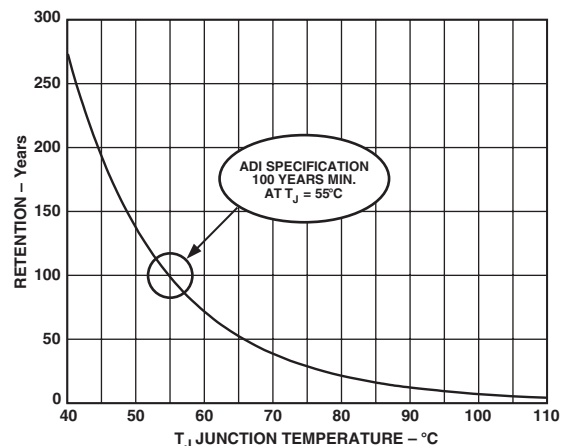

Figure 16. Flash/EE Memory Data Retention
*Retention* quantifies the ability of the Flash/EE memory to retain its programmed data over time. Again, the ADuC834 has been qualified in accordance with the formal JEDEC Retention Lifetime Specification (A117) at a specific junction temperature ( $T_J = 55^\circ\text{C}$ ). As part of this qualification procedure, the Flash/EE memory is cycled to its specified endurance limit described above, before data retention is characterized. This means that the Flash/EE memory is guaranteed to retain its data for its full specified retention lifetime every time the Flash/EE memory is reprogrammed. It should also be noted that retention lifetime, based on an activation energy of 0.6 eV, will derate with  $T_J$  as shown in Figure 16.